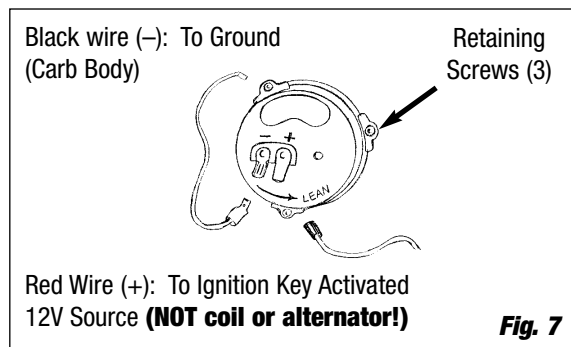

Fig. 7
3. On electric choke models (**See Fig. 7**), remove one choke housing retaining screw and install eyelet end of choke ground wire (black) to the choke housing, and reinstall the screw. Connect clip end of choke ground wire to negative (-) spade terminal on choke housing.
volt positive (+) source that is activated by the ignition switch (**Not the coil or alternator; see Fig. 7).**